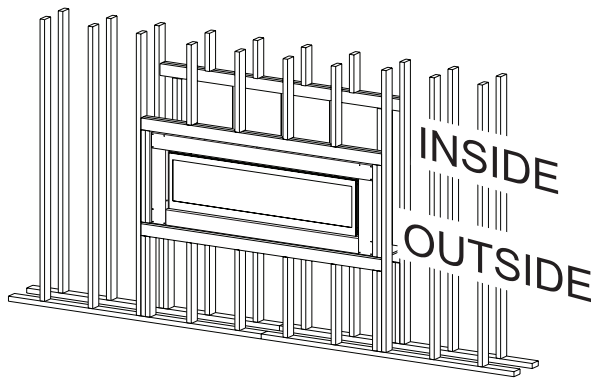

Figure 58
1. The stainless may be covered in full or in part by a non-combustible stone, tile or other finishing material. It is recommended that the outer perimeter face of the outdoor kit be covered with non-combustible finishing material. See Figure 58.